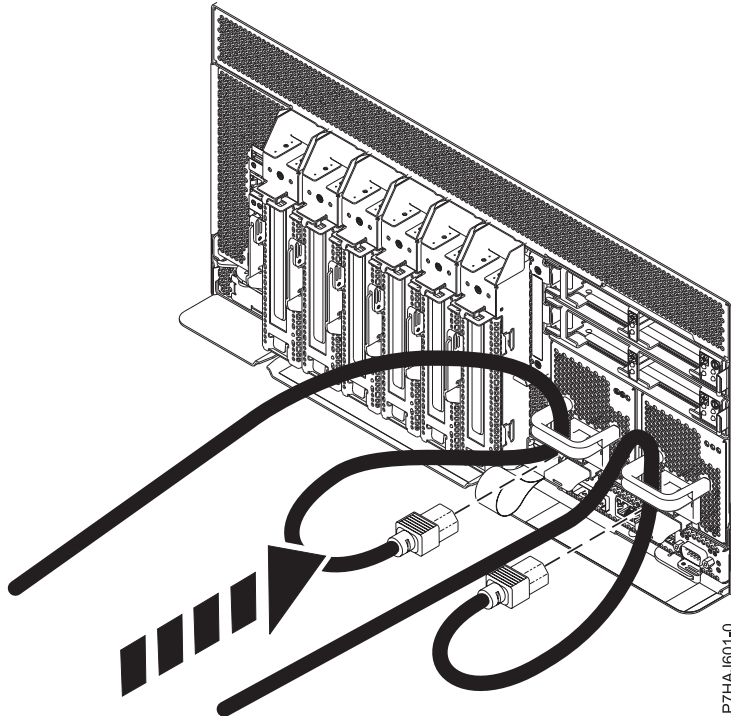

Figure 34. Connecting the power cords
2. Reconnect the power cord to the system unit as shown in Figure 34 on page 49. Ensure that the cords are threaded through the handles.